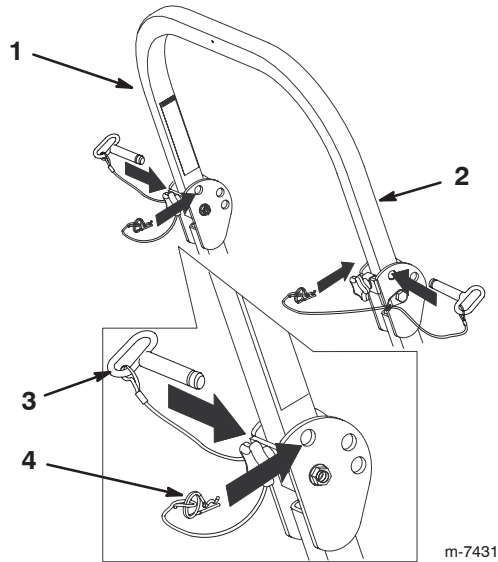

Figure 3
2. Remove the hairpin cotter pins and remove the 2 pins (Fig. 3).
4. Install the 2 pins and secure them with the hairpin cotter pins (Fig. 3).
5. To raise the roll bar, remove the hairpin cotter pins and remove the 2 pins (Fig. 3).
6. Raise the roll bar to the upright position and install the 2 pins and secure them with the hairpin cotter pins (Fig. 3).